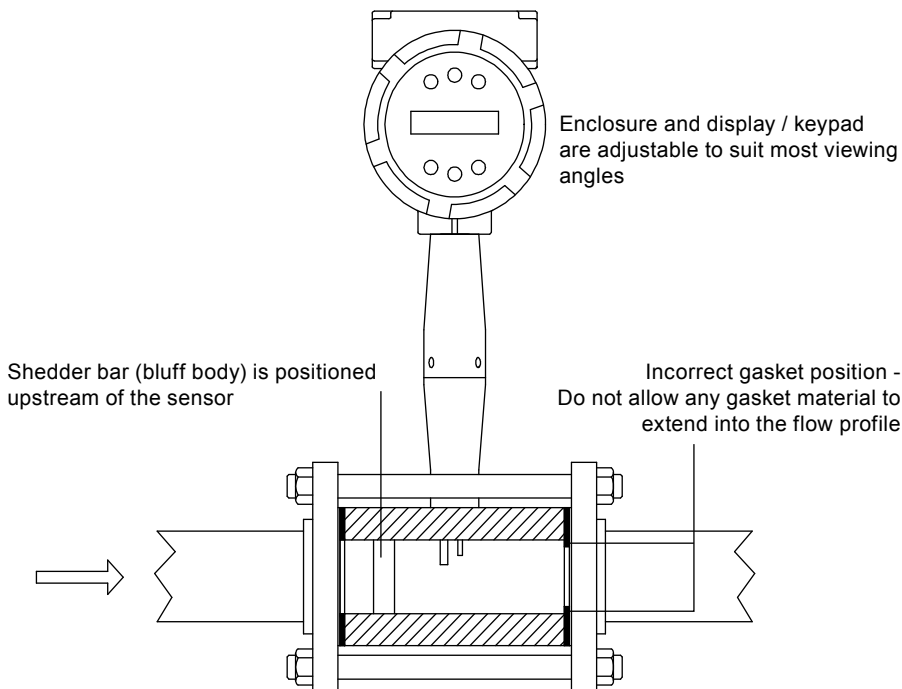

Fig. 6 Wafer-style flowmeter installation
Install the VLM20 In-Line Flowmeter between two conventional pipe flanges as shown in Figures 6 and 7. Table 1 provides the recommended minimum stud bolt lengths for wafer-style meter body size and different flange ratings.
4. Place the remaining studs between the pipe flanges. Tighten the nuts in the sequence shown in Figure 6. Check for leaks after tightening the flange bolts